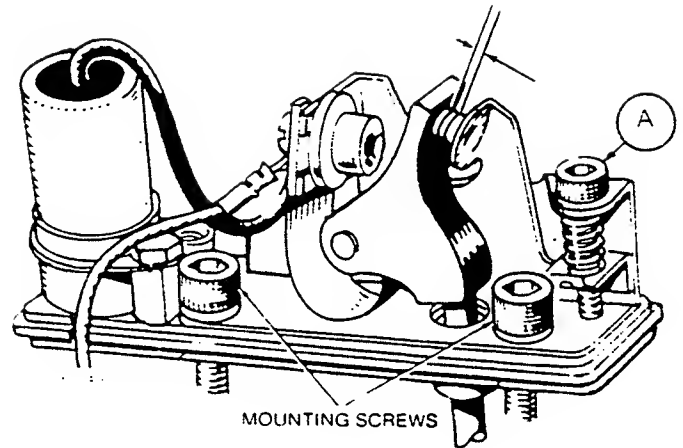

FIGURE 42. BREAKER POINT ADJUSTMENT
3. Using an allen head wrench, adjust set screw (A) for 0.020 Inch (0.51 mm). Measure point gap with a flat thickness gauge. See Figure 42.